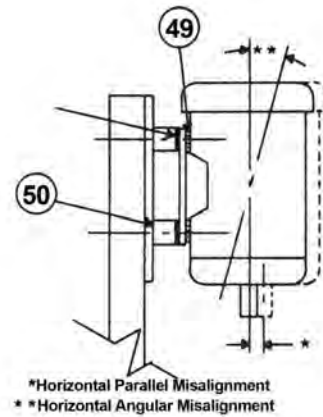
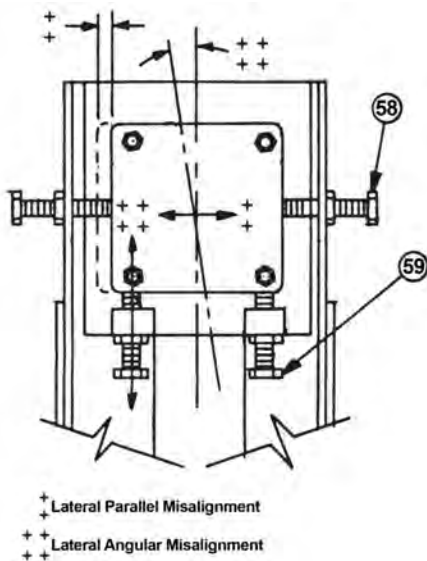

Fig. 4
Fig. 5
- a. **Lateral Parallel Misalignment** is adjusted by loosening the four motor retaining bolts (#49) (Fig. 4) after which you loosen the lateral adjusting screws (#58) (Fig. 5) on the side of the motor that has to be shifted and tighten the remaining lateral adjustment screws until lateral parallel alignment is achieved. (Fig. 5) If misalignment is out more than .020" see step e.
- b. **Horizontal Parallel Misalignment** is adjusted by loosening the four motor retaining bolts (#49) (Fig. 4) after which you add or subtract shims from between motor base and motor support pads (#50) (Fig. 5). If more than 0.1875" total shims are required or alignment cannot be achieved without any shims, see step v. Tighten all screws before operating pump.
- c. **Lateral Angular Misalignment** is adjusted by loosening the four motor retaining bolts (#49) (Fig. 4) after which you loosen the angular alignment screws (#59) (Fig. 5) on the side of motor that has to be lowered and tighten the angular alignment screws on side of motor that has to be raised, until angular alignment is achieved. (Fig. 5) Tighten all screws before operating.
- d. **Horizontal Angular Misalignment** is adjusted by loosening the four motor retaining bolts (#49) (Fig. 4) after which you add or subtract shims from between motor base and motor support pads (#50) (Fig. 4). Tighten all screws before operating pump.